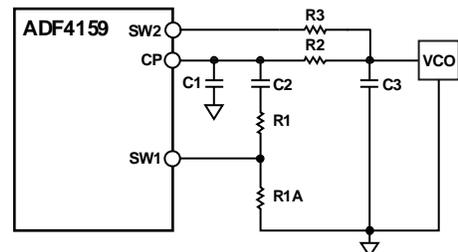

Figure 45 Fast-Lock Loop Filter Topology—Topology 1
- Divide the damping resistor (R1) into two values (R1 and R1A) that have a ratio of 1:3 (see Figure 45).